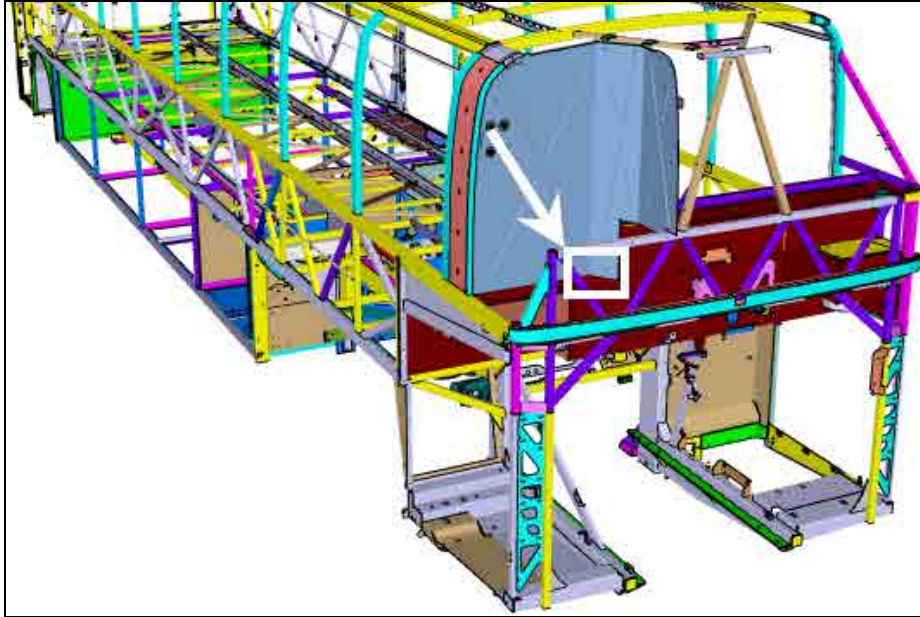

FIGURE 2
- 2) Inspect the bulkhead at the lower part of the SCR tank compartment (see figure 2). Using a drill stop and a **1/8"** or **5/32"** drill bit, drill a small hole through bulkhead only at the end of cracks in order to stop progression of stress cracking.